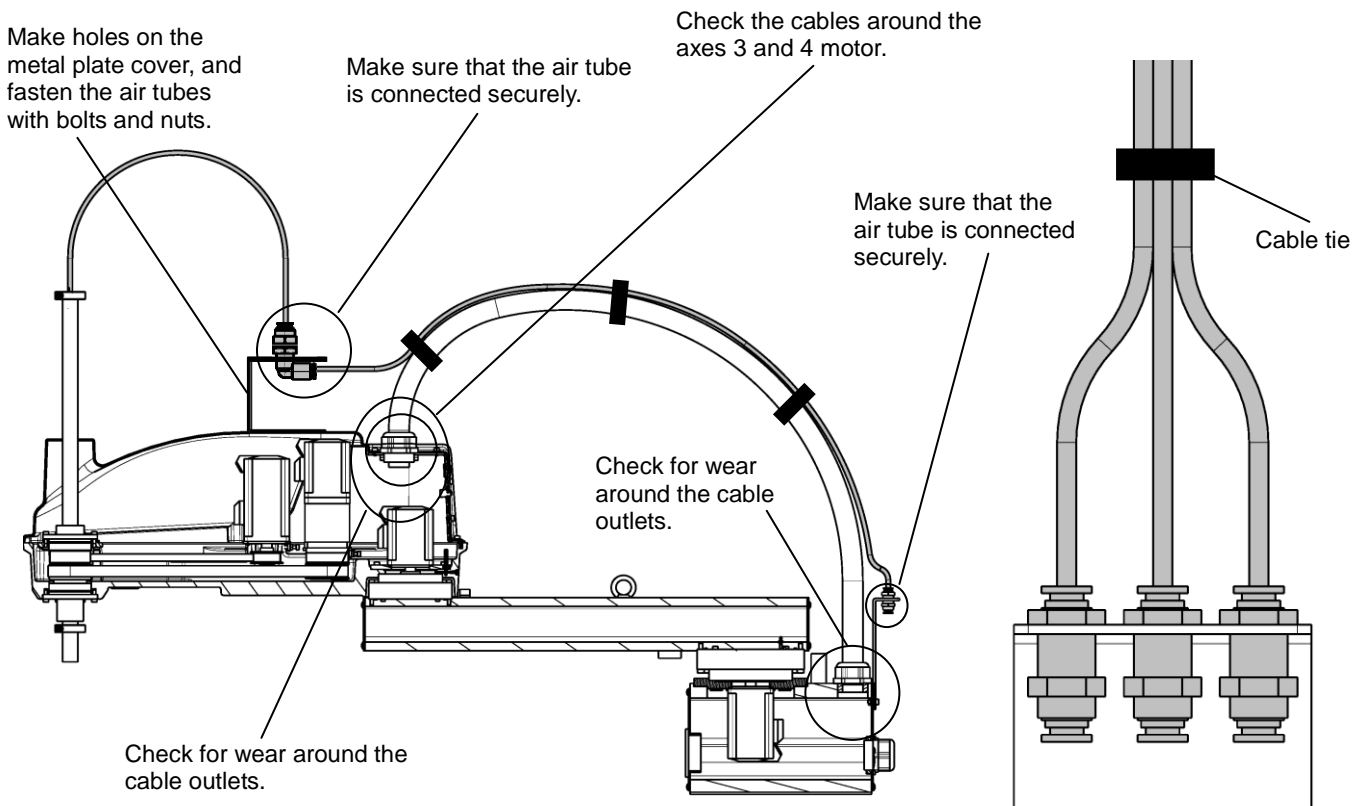

Fig. 4.3 Cable inspection locations (THL800, THL900, THL1000)
- Please note that Fig. 4.3 shows a piping example and does not warrant damage to the air tube and its accessories.